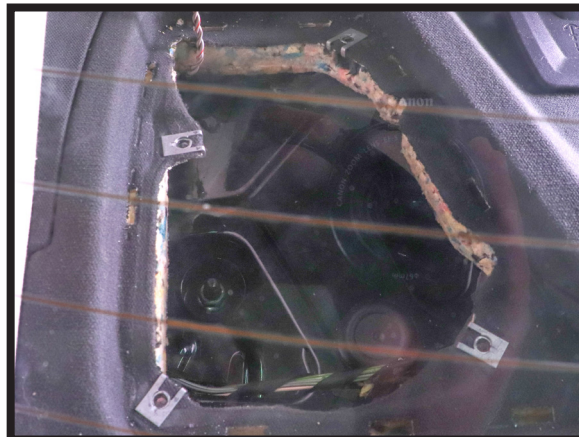

FIGURE 7
6. REMOVE FOAM UNDERNEATH SPEAKER TO ACCESS TOP MOUNT NUTS. (FIGURE 7)